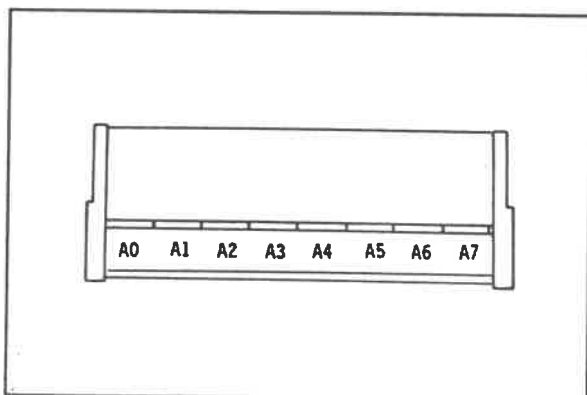

Figure S-5a
- \* Refer to Figure S-5a and Table S-5a to find the correct spiral type.